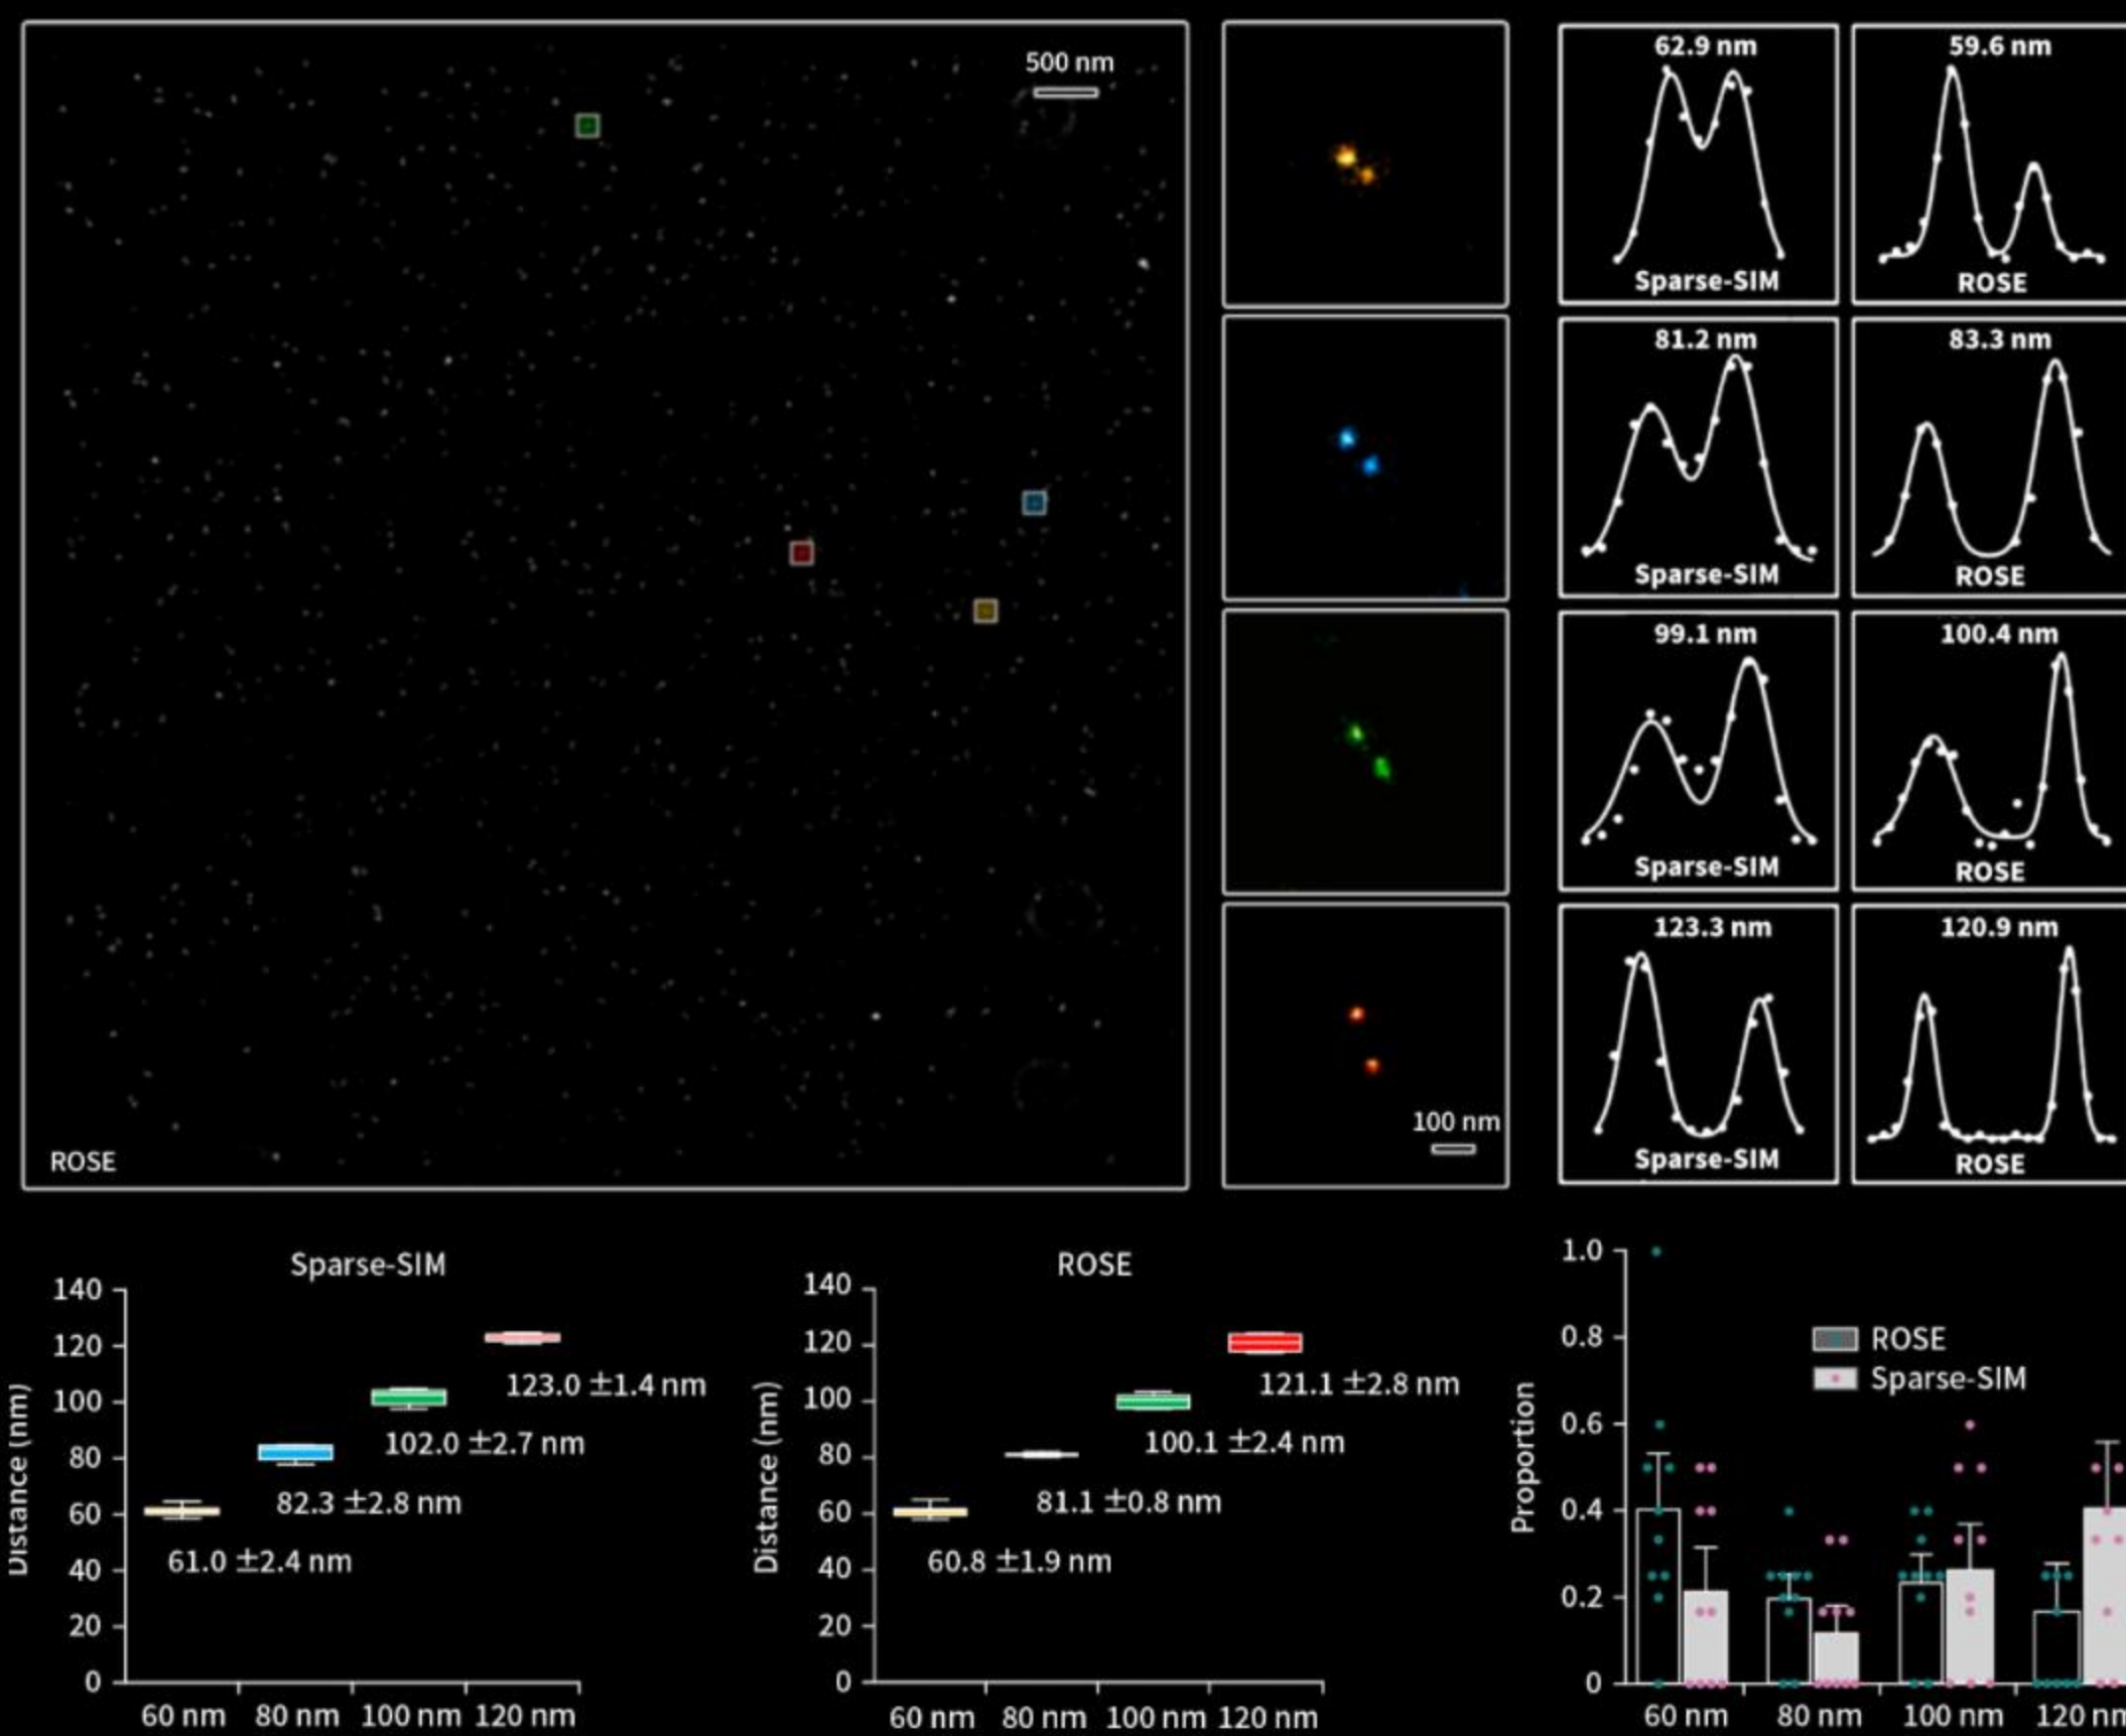

Fig. 4
- In the accompanying illustration (Fig. 4) of this original technology, comparing data from single-molecule localization microscopy (SMLM) and Sparse-SIM reveals that Sparse's fidelity is validated by higher-resolution imaging results.